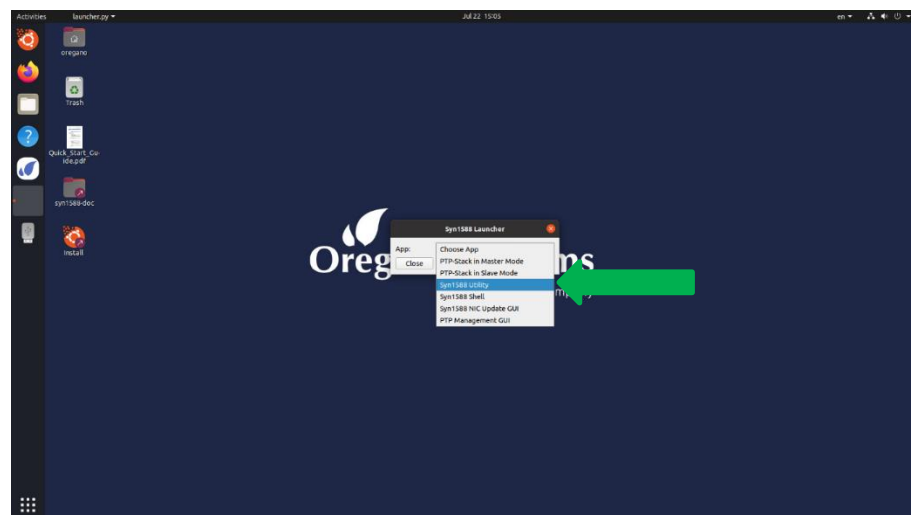

Figure 11 Select to run the syn1588® Utility
3. Select the desired interface to connect with the syn1588® PTP Stack (Figure 11) Note that this drop-down menu will only list syn1588® NIC cards!